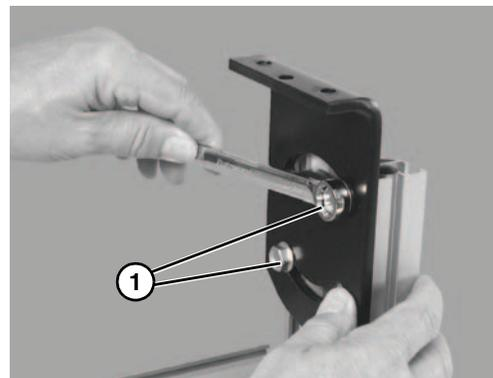

Figure 8
Failure to secure screws (Figure 8, item 1) may cause conveyor sections to drop down causing severe injury. TIGHTEN SCREWS (Figure 8, item 1) AFTER ADJUSTMENT.
- Adjust bracket angle and height. Tighten bracket flange head hex screws (**Figure 8, item 1**). Tighten screws to 150 in-lb (17 N-m).